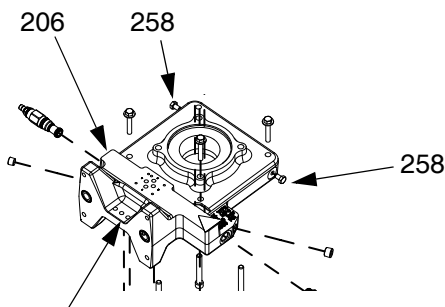
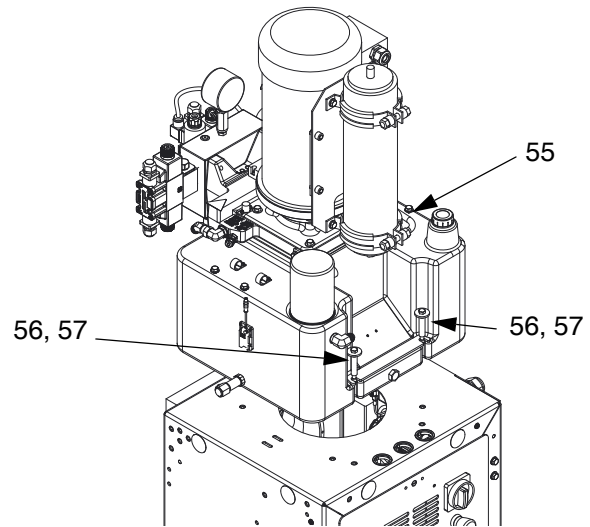

FIG. 29
FIG. 30
1. Run a rope through the three eye-bolts and between the motor and the accumulator. Secure to a hydraulic lift. See FIG. 29 on page 30.
2. Lift the Hydraulic Power Pack and place onto the base enclosure. See FIG. 30.
3. Align the holes with the tank then install finger-tight the four bolts (57) and washers (56) securing the tank to the stand. Torque to 10 ft-lb (13.5 N•m).
5. Remove eye-bolts. Install original bolts (258) into fluid housing (206). See FIG. 29 on page 30.